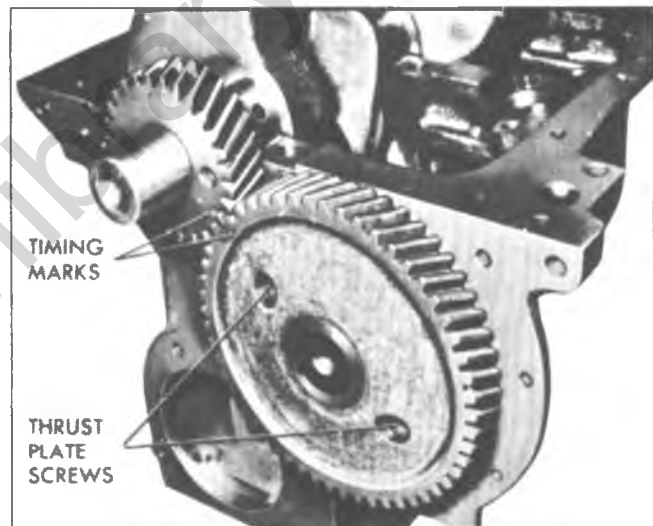

Fig. 25L—Timing Gear Alignment Marks
- Align timing gear marks then remove the two camshaft thrust plates screws by working through holes in the camshaft gear (fig. 25L).
- Turn crankshaft and camshaft so that the valve timing marks on the gear teeth will line up (fig. 25L). Push camshaft into position. Install camshaft thrust plate to block screws and torque to specifications.